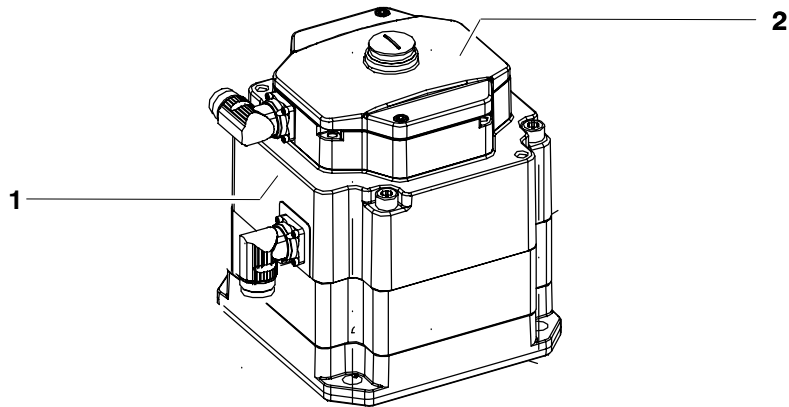

Fig. 8 Motor unit for main axis drive
The robot axes 1, 2 and 3 are driven by motor units as shown in Fig. 8. Each motor unit for the main axis drives consists of a brushless AC servomotor (1) with a permanent-magnet single-disk brake and hollow-shaft resolver (2), both integrated. The motor units for axes 1, 2 and 3 are of the same design.